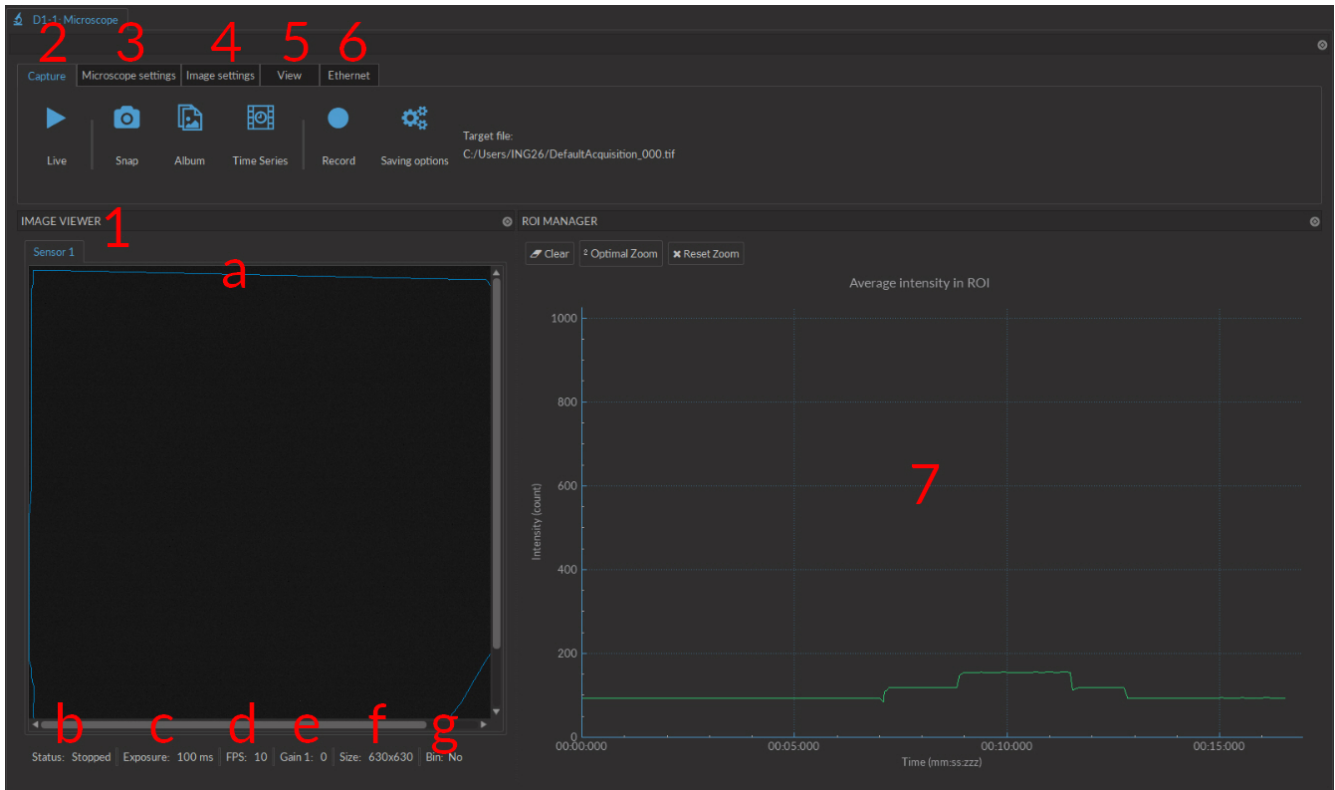

Figure 3.17: Microscope Module Interface
Below is the user interface (Fig. 3.17) and a complete description of all the functions.
1. The **Image Box** (Fig. 3.17) displays images from the microscope and allows region of interest (ROI) drawing by clicking and dragging the mouse over the image.
- a) The **Sensor Tabs** (Fig. 3.17) display the sensors available to view. For multi-sensor microscopes, changing tabs allows you to see the image available to each.
- b) The microscope **Status** (Fig. 3.17) will indicate the current microscope state (Live/Stopped).
- c) The **Exposure** (in ms) (Fig. 3.17) indicates the exposure time of the microscope sensor.
- d) The **FPS** (Frames Per Second) (Fig. 3.17) indicates the number of frames per second taken by the sensor.
- e) The **Gain** (Fig. 3.17) indicates the electrical gain of the sensor.
- f) The **Size** (Fig. 3.17) indicates the resolution of the sensor images (in Pixels x Pixels).
- g) The **Bin** (Fig. 3.17) status indicates whether or not the sensor image is being binned (yes/no).
2. The **Capture** tab (Fig. 3.17) contains different image-capturing functions of the microscope.
3. **Microscope settings** tab (Fig. 3.17) is used to set parameters related to the microscope recording images.
5. The **View** tab (Fig. 3.17) is used to change viewing parameters of the sensor image. These changes will only appear on the sensor image when a new **Capture** sequence is started. Any adjustments made affect only the displayed image and not the recorded images.
6. The **Ethernet** tab (Fig. 3.17) is used to define the ethernet connection used to connect the computer to the microscope driver.
7. The **ROI Manager** (Fig. 3.17) displays the live mean pixel intensity from a drawn ROI.